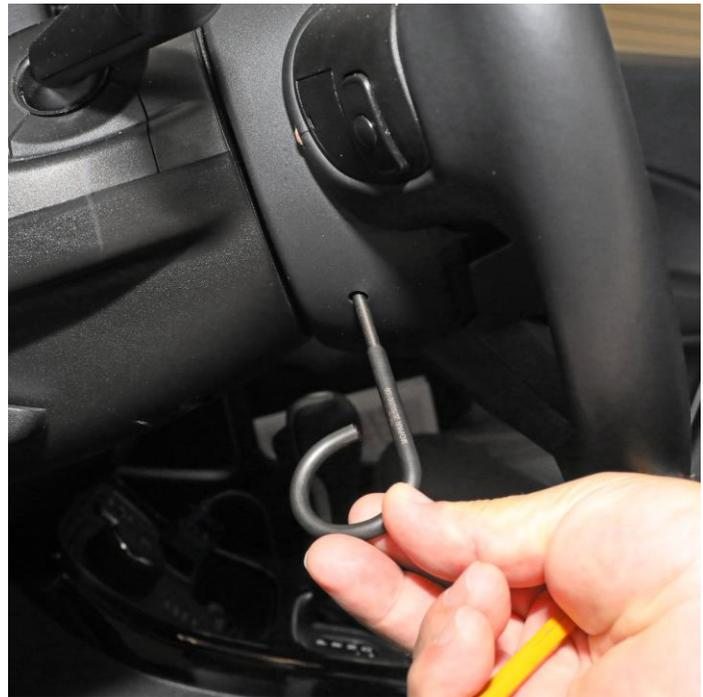

Figure 2 – Air Bag Removal
3. Using the Remover, Driver Air Bag 2050200100 , pierce the trim cover at the dimple and insert it through one of the steering wheel access holes. A guide and notch integral to each side of the steering wheel hub rear trim cover and the mounting/horn switch plate will assist in directing the tool to the ends of the retainer spring (Figure 2).